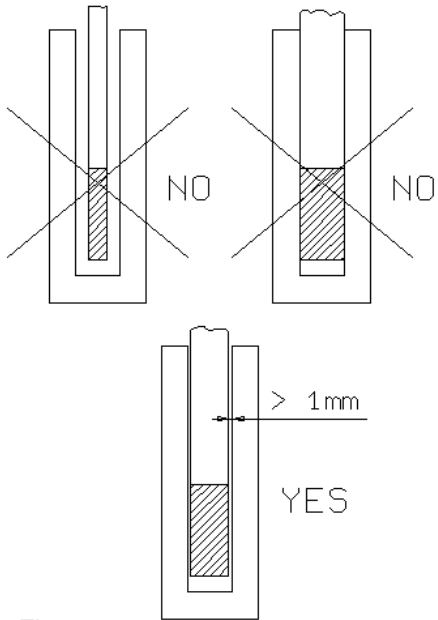

Fig.1
- Check that the diameter of the hole in the calibration block is at least 1mm bigger than the diameter of the probe. If this is not the case, use the block with the above-mentioned tolerances (fig.1).